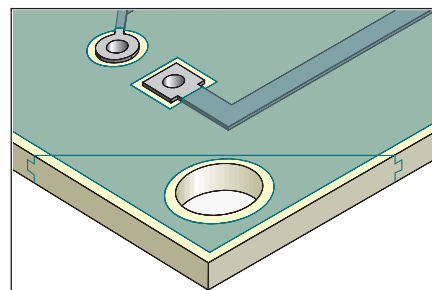

Figure 6 Complete by drilling holes, or adding circuitry as required.
16. Complete by drilling holes, slots, etc. or adding circuitry as required. (See Figure 6.)